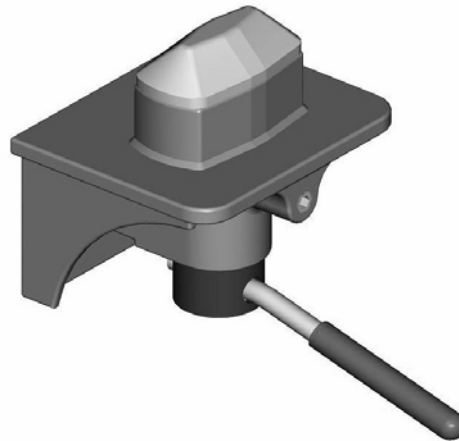
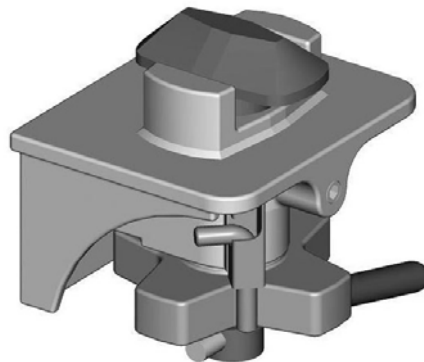

Figure 4
Figure 6
- 4.2 Non retractable, as per figure 4, whereby the shearblock is permanently raised above the top plate.
- 4.4 Non Retractable Screwdown, as per figure 6. This is the same as figure 4 with the additional feature of the stem being able to be clamped to the inner surface of the corner fitting thereby reducing relative movement. Additional benefits are reduced noise and vibration, together with reduced stress on the chassis, container and the load.